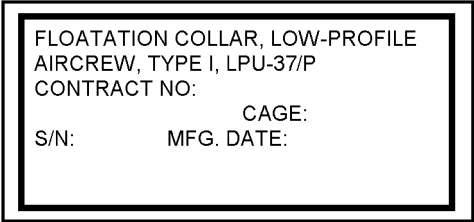

Figure 8-2. LPU-37/P Markings
1. Compare markings on preserver to those listed in figure 8-2.